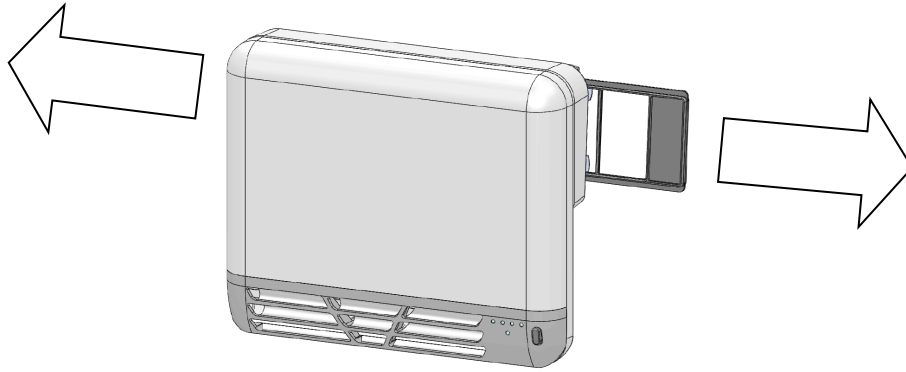

Fig. 26
2. *pull the filter at the rear of the blower to right or left to extract it, as indicated in Fig. 26;*